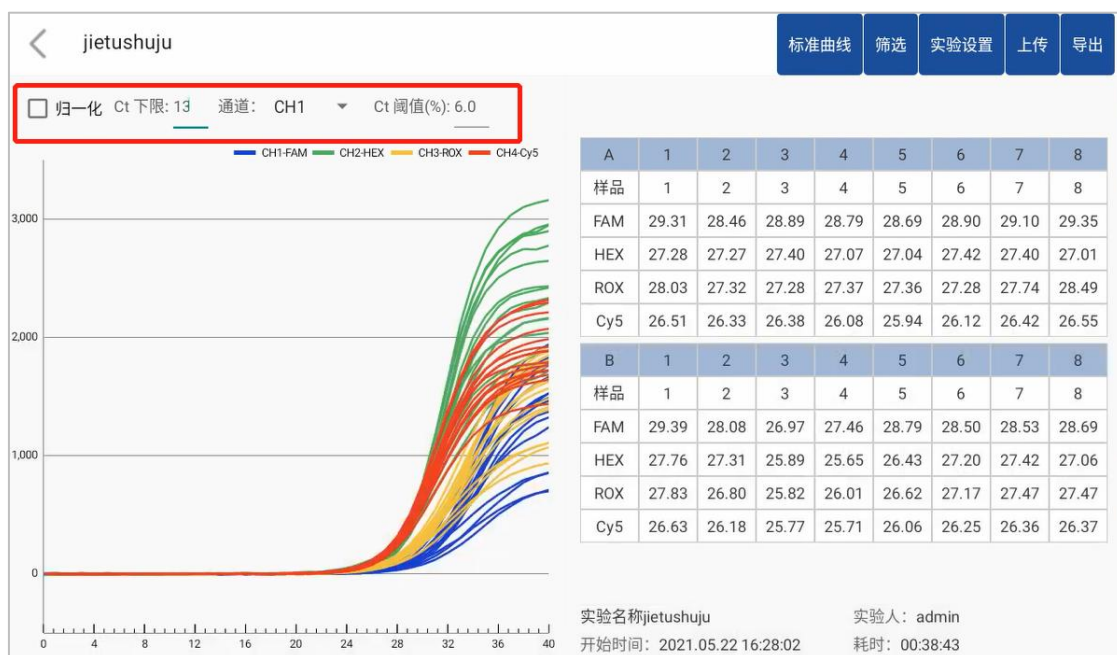

Figure 4.5-3 Experimental analysis interface
- e. Click the "Result" button in the upper-right corner to return to the Figure 4.5-3 page.